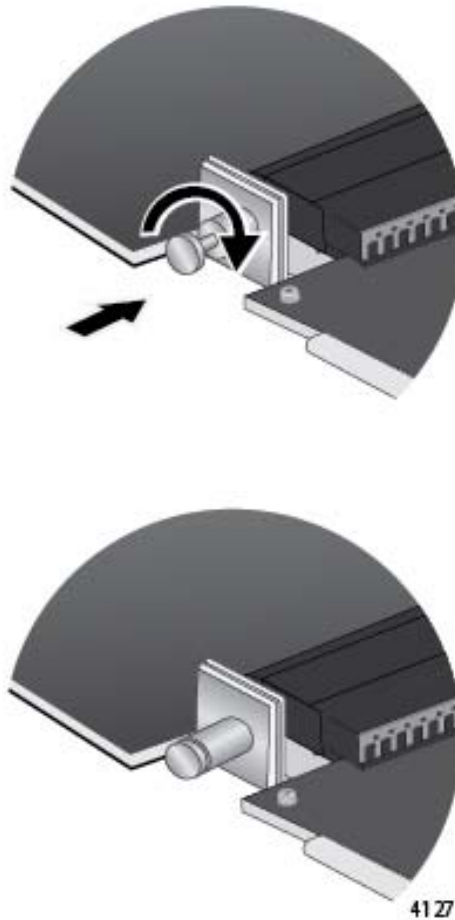

Figure 84. Releasing the Retaining Pin
11. Turn the retaining pin on the side of the line card one quarter turn to release it. Refer to Figure 84 on page 146.